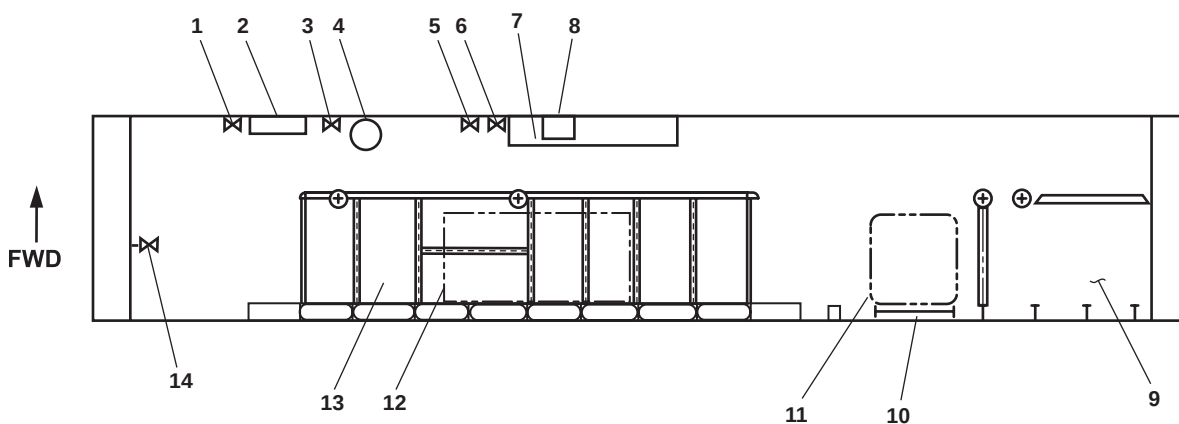

Figure 3. Towing Gear Locker
1. PW-10, POT. WTR. TK. PORT. DR (figure 3, item 1). This valve permits draining of the port potable water tank into the bilge.
2. Eductor valves (figure 3, item 2). The eductor valves control the operation of the eductor for this space.
3. PW-11, POT. WTR. TK. STBD. DR. (figure 3, item 3). This shutoff valve permits draining of the starboard potable water tank into the bilge.
4. General alarm bell (figure 3, item 4). The alarm bell signals various emergency conditions on the vessel.
5. ST-4, BLST TK 2P SNDG. (figure 3, item 5). This valve permits sounding of the port ballast tank.
6. ST-3, BLST TK 2P SNDG. (figure 3, item 6). This valve permits sounding of the starboard ballast tank.
7. Shelving (figure 3, item 7). Shelving provides stowage for towing gear and equipment.
8. Space heater (figure 3, item 8). The space heater provides heat to the towing gear locker.
9. Mooring line stowage bin (figure 3, item 9). The mooring line stowage bin provides storage for mooring lines.
10. Vertical ladder (figure 3, item 10). This ladder provides access to the main deck.
11. Raised access hatch (figure 3, item 11). The raised access hatch provides access to the main deck for personnel.
12. Raised access hatch (figure 3, item 12). The raised access hatch provides access to the towing gear stowage bin for stowing and retrieving gear.
13. Towing gear stowage bin (figure 3, item 13). The towing gear stowage bin provides storage for towing gear and the shore power cable.
14. BB-11, OVBD, DISCH, BILGE EDUC. (figure 3, item 14). This valve secures the overboard flow from the eductor.